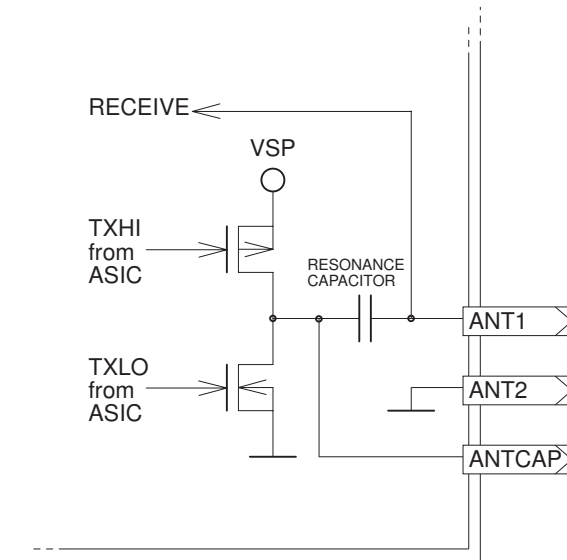

Figure 1-4. Antenna Circuit Block Diagram
- SYNC (1)** Output for wired synchronization. This output is at GND level until the Micro-reader starts its read cycle, at which time it goes to VSL until the complete reading, programming or locking cycle is finished.
- RDEN- (2)** Input for wired synchronization. Taking this pin to VSL acts as a hold-off for the Micro-reader's output stage preventing it from transmitting until the input returns to GND. The Micro-reader only samples this input at the start of its own reading, programming or locking cycle, this means that if the input goes to VSL after a cycle is started, the cycle is not interrupted. RDEN- is a high impedance input and must be tied to GND via a suitable resistor (27 k $\Omega$ ) when it is not being used.
- RESET- (4)** Taking this pin to GND holds the Micro-reader in reset. If the reset pin is not used it can be left disconnected as it is internally pulled up. Minimum pulse duration to perform a reset is 1 ms. After a reset the processor takes between 28 ms and 132 ms (typically 72 ms) before it can receive new instructions via the serial communications interface.
- RXD (5)** Input configured to receive serial data commands at 9600 Baud, 1 start bit, 8 data bits, no parity and 1 stop bit.
- TXD (6)** Output configured to transmit serial data at 9600 Baud, 1 start bit, 8 data bits, no parity and 1 stop bit.
- ANT1 (16)** Antenna pin for the connection of 47  $\mu$ H, low Q antennas.
- ANTCAP (17)** It is possible to use antennas of lower inductance by connecting a suitable capacitor between ANT1 and ANTCAP. This additional capacitor (ceramic, 100 VDC) will be in parallel with the 30 nF resonance capacitor on board the Micro-reader (see Figure 1-4 and Appendix C).
- ANT2 (19)** Antenna pin (GND) for the connection of 47  $\mu$ H, low Q antennas.
- GNDP (21)** Pin 21 is ground for the output stage.
- VSP (22)** Pin 22 is for connecting the positive supply voltage (5 V) for the output stage.
- VSL (24)** Pin 24 is for connecting the positive supply voltage (5 V) for the logic part.
- CRDM (26)** Supplying pin 26 with a logic high signal causes the Micro-reader to run in a continuous charge-only read mode (see Section 1.2.5 for more information).
- WLSC (27)** Pin 27 enables or disables wireless synchronization. To enable the wireless synchronization, pin 27 must be taken to VSL. When wireless synchronization is enabled, the Micro-reader will try to synchronize its transmit signals with any other readers in range. To disable wireless synchronization pin 27 must be taken to GND. Pin 27 is a high impedance input and must be tied to either VSL or GND via a suitable resistor (27 k $\Omega$ ).
- OKT (29) This output is set to logic high for approx. 60 ms if a valid transponder was read. It can be connected to an LED externally to indicate the result of the read cycle.
- STAT(30) Pin 30 is set to logic low when the RF-transmitter is activated. Supplying an external LED with this signal makes the status of the Micro-reader visible.